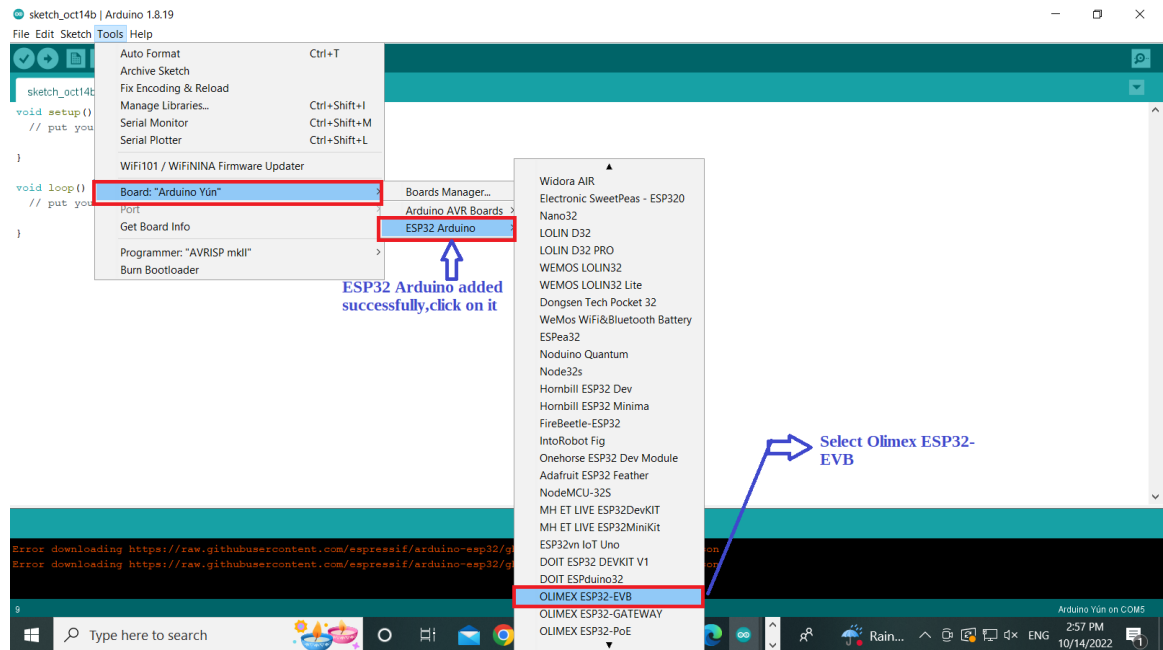

Figure 1.8: Board Manager
2. Start writing your code on the newly created blank project file, as shwon in figure 1.8.